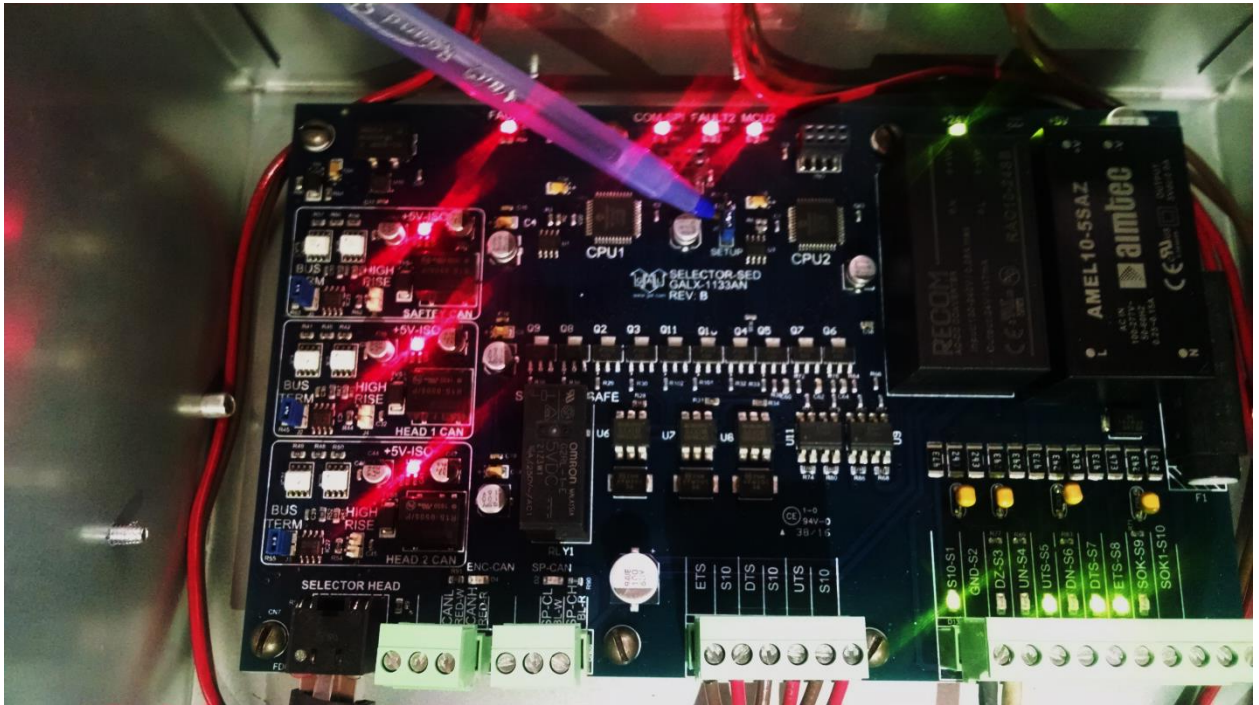

Figure 2.24: Selector Board Setup Jumper
- Move the jumper on the GALX-1133AN selector board to the setup position. See Figure 2.24.